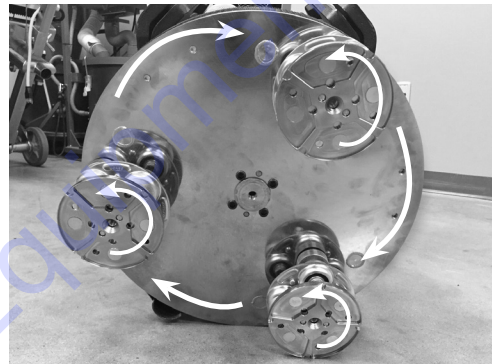

FIG. 6
- With the grinder switch in "forward," the tooling should turn counterclockwise and the drum should turn opposite (Figure 6).